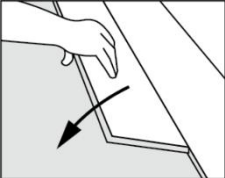

Figure 3
11. Position the first plank of the second row by angling it up slightly on the long side, pushing forward and interlocking the side tongue (**Figure 3**). Slide the plank to the left to align the edges of the end joint.
14. Install the remaining planks and rows in the same manner (**Figures 3,4 & 5**).